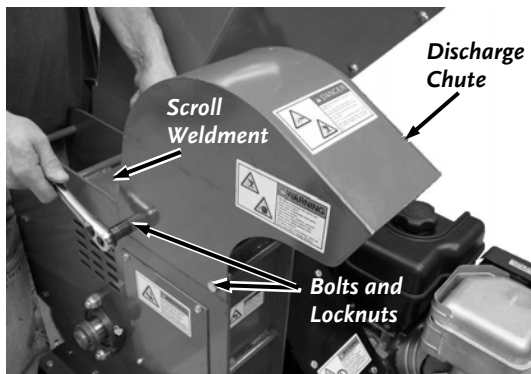

Figure 23
3. Remove the two Bolts and Locknuts that secure the Discharge Chute to the Chipper Basic Assembly with two 1/2" wrenches and then remove the Discharge Chute (**Figure 23**).